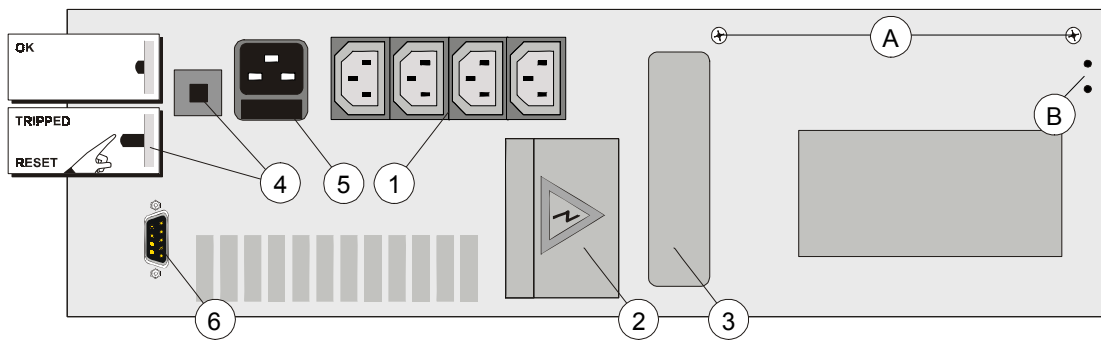
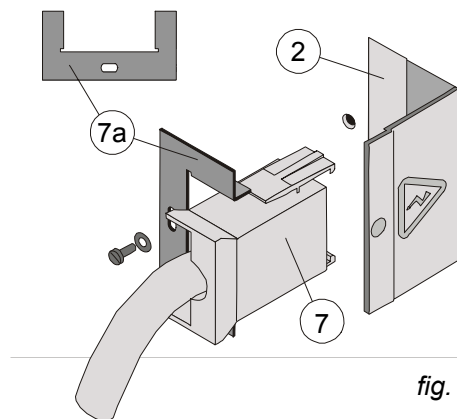
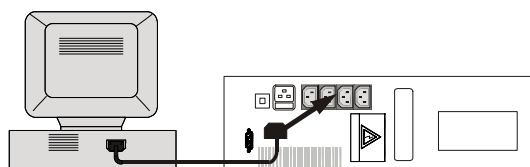
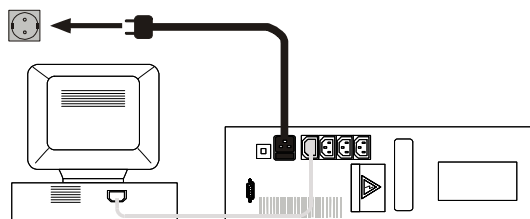

fig. 1
fig. 2
fig. 3
fig. 4
- During transport the battery drawer must either be removed or fixed with two screws at the rear side of the UPS (A, fig. 1).
1. Remove the transport screws (A, fig. 1) and store them in the free holes (B, fig.1). Mount the **NetPro 19"** UPS in the 19" rack. The module must be supported by mounting rails, do not mount it by using the front brackets only. The front brackets allow mounting of handles (not included).
Battery extension module(s) can be installed to increase the battery runtime. Connect the DC connector of the battery module (7, fig. 2) to the DC socket of the UPS (2, fig. 1/2). You will hear a click when the cable is properly installed. Block the DC connector: install the small locking plate (7a, fig. 2) that came with the battery module, and fasten it with the screw provided. Using the DC connector of the battery module (not shown) you can install a second, third, etc. module. See also section 5.1.
5. Disconnect the power cord from the computer (rating 250Vac/10A) and connect this cord to the mains input socket (5, fig. 1) of the UPS. See fig. 4.
6. Using the output cord(s) provided, connect the computer(s) to the appliance outlet(s) (1, fig. 1) of the UPS. Spread the loads over the appliance outlets as equally as possible. If you use a distribution box to connect more than one appliance per outlet, please note that the maximum AC-current rating of each appliance outlet is 10Amps. See fig. 3.
7. Connect the mains cord of the UPS to a working, grounded AC wall socket outlet. See fig. 4. The green LED 'on' (8, fig. 6) will blink now: mains power is available and the batteries are charging. If the LED does not blink but illuminates continuously instead, press '0' for one second.
9. For advanced communication possibilities, the RS232 interface port (6, fig. 1) can be connected to a computer system and/or optional interface cards (3, fig. 1) can be added. See chapter 4.